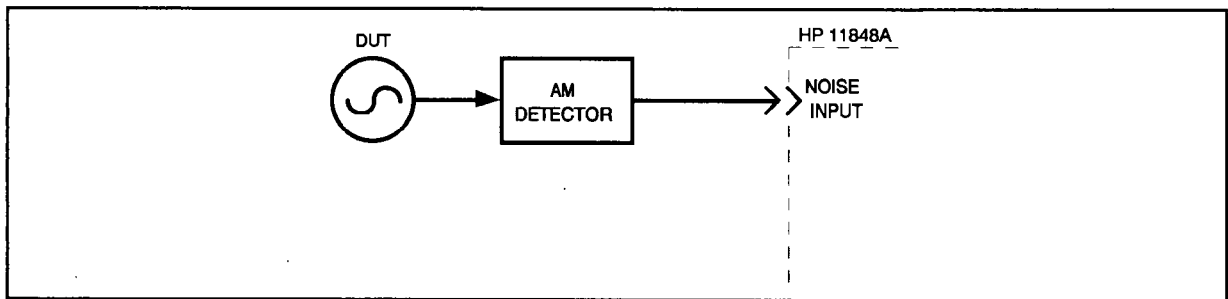

Figure 3-11. AM Noise Measurement Setup
1. Connect circuit as shown in figure 3-11, and tighten all connections.